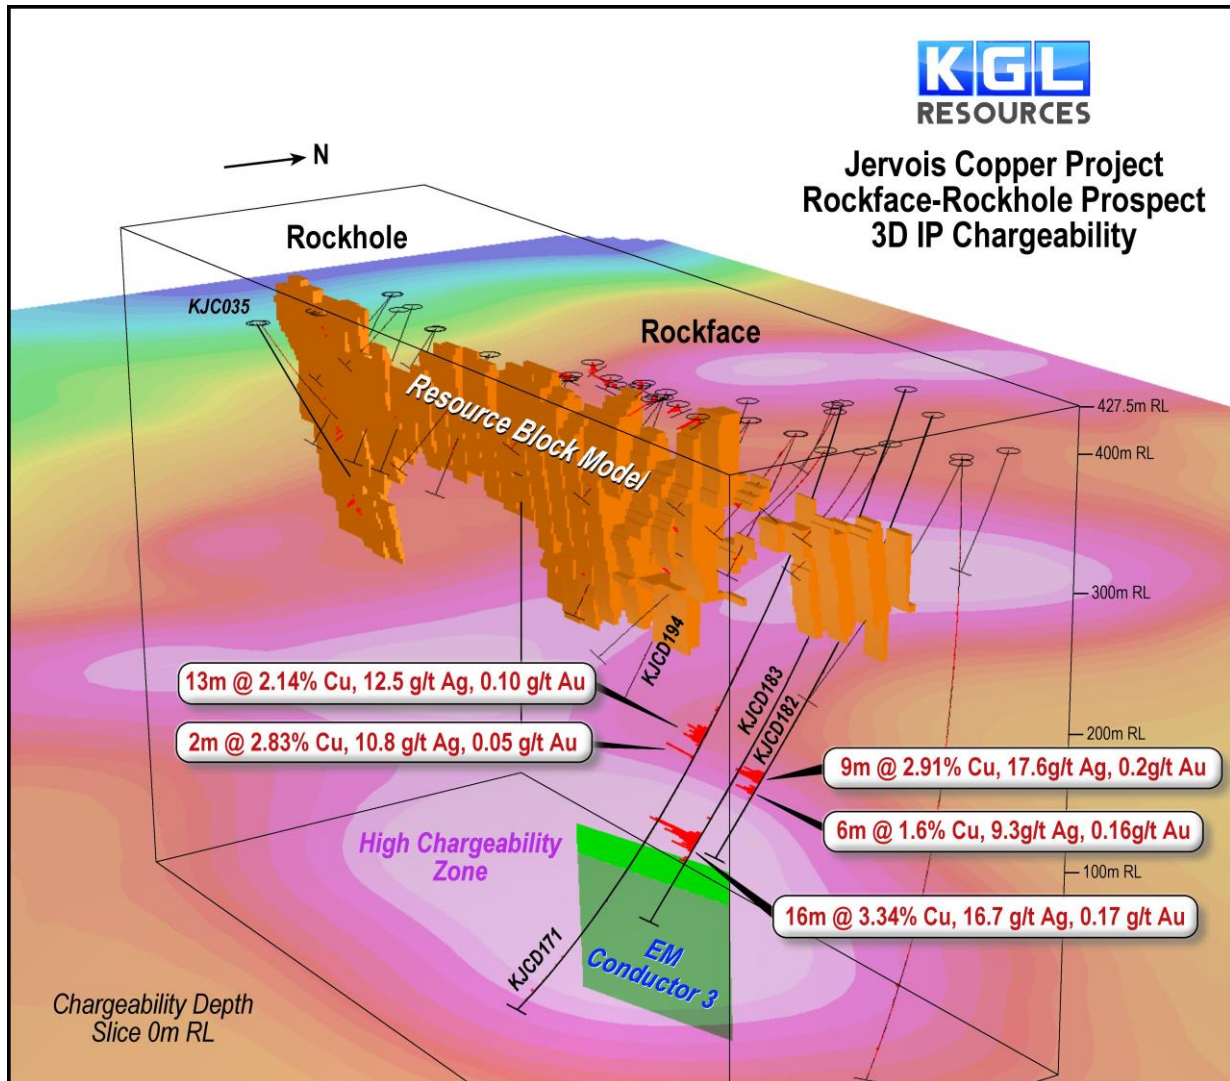

FIGURE 1 PERSPECTIVE VIEW OF ROCKFACE (LOOKING NORTH-WEST)
KGL Resources (ASX:KGL) is pleased to announce that results from diamond hole KJCD182 at the Rockface prospect has confirmed the high-grade copper mineralisation observed in the core. Holes KJCD182 and 183 were designed to intersect off-hole electromagnetic (EM) conductors modelled below hole KJCD171 drilled in 2015 that intersected 13m @ 2.14% Cu, 12.5g/t Ag from 255m and 2m @ 2.83% Cu, 10.8g/t Ag from 278m (Figure 1).